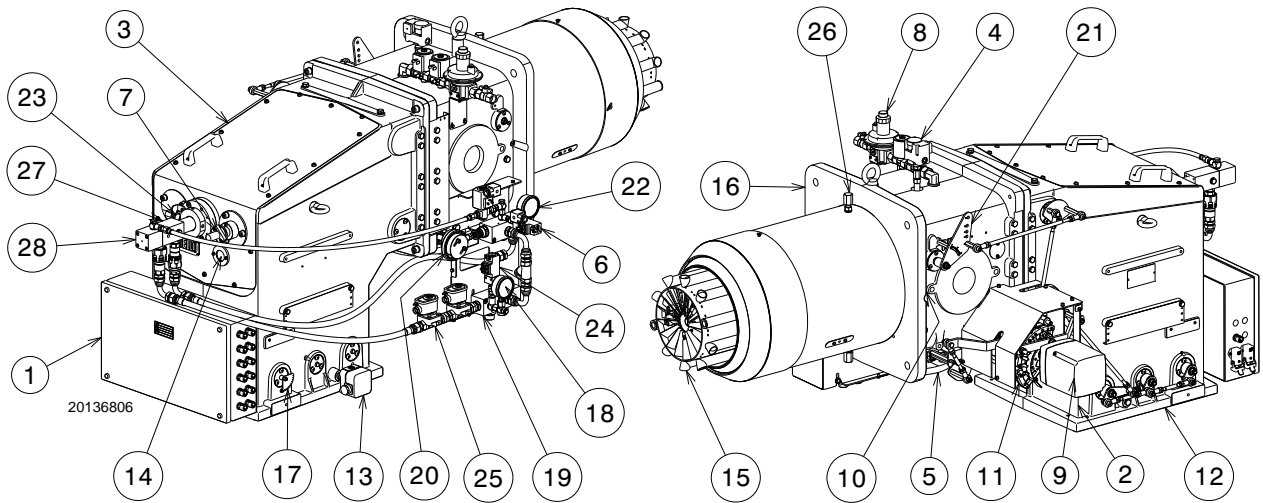

Fig. 8
(1) Reference conditions: Ambient temperature 20°C - Gas temperature 15°C - Barometric pressure 1013 mbar - Altitude 0 m a.s.l.
(2) Pressure at the socket (Fig. 8) with zero pressure in the combustion chamber and at maximum burner output.